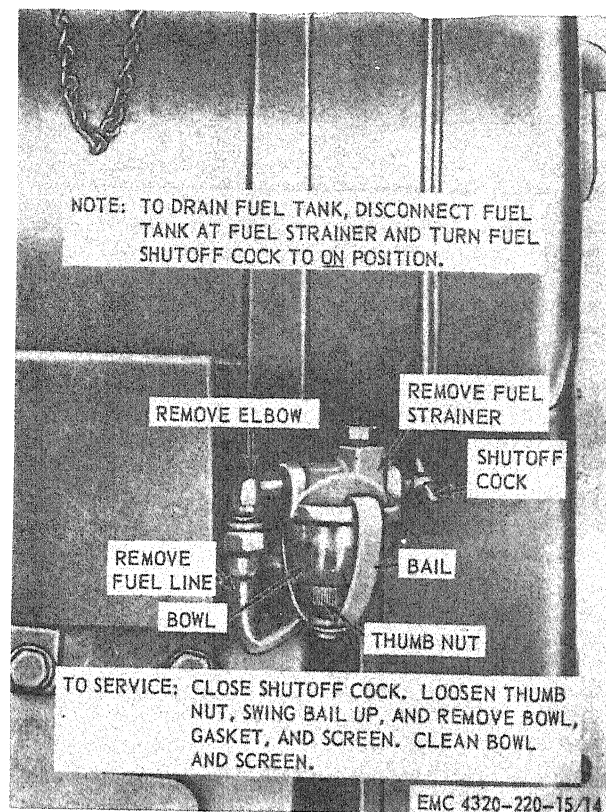

Figure 14. Fuel strainer and line, removal and installation, and fuel strainer servicing.
- Service, remove, and install the fuel strainer and line as shown by figure 14.